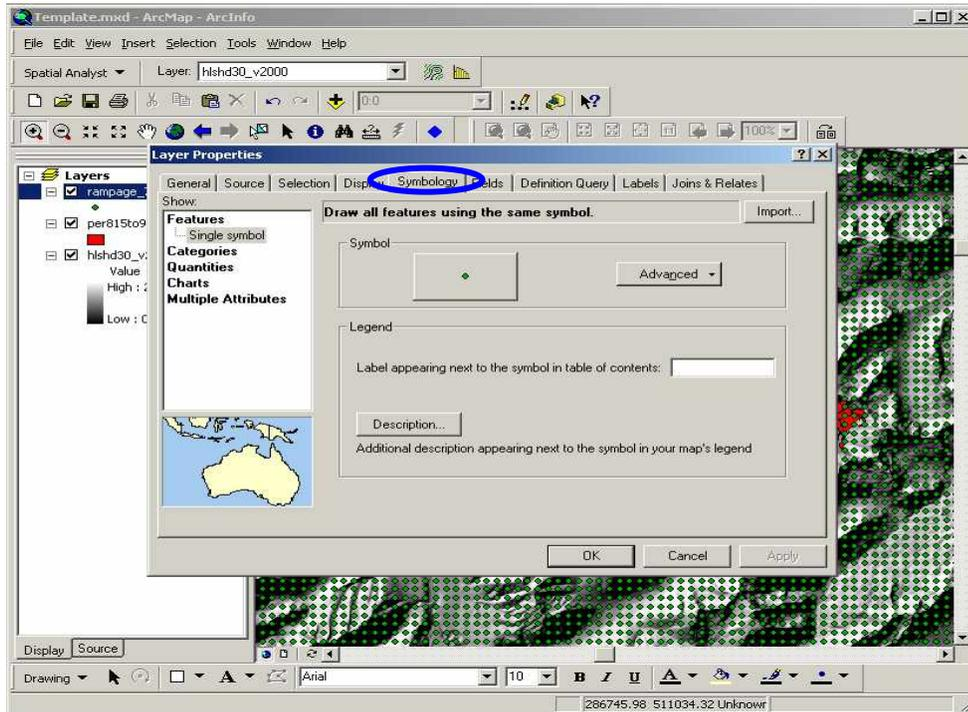

Figure 3. Layer Properties dialog box as displayed in ArcMap.
7. After loading the file into the ArcMap project, double click on the layer name in the **Table of Contents** to open the **Layer Properties**. This will open the dialog box in Figure 3.
8. Click on the **Symbology** tab. (Figure 3).